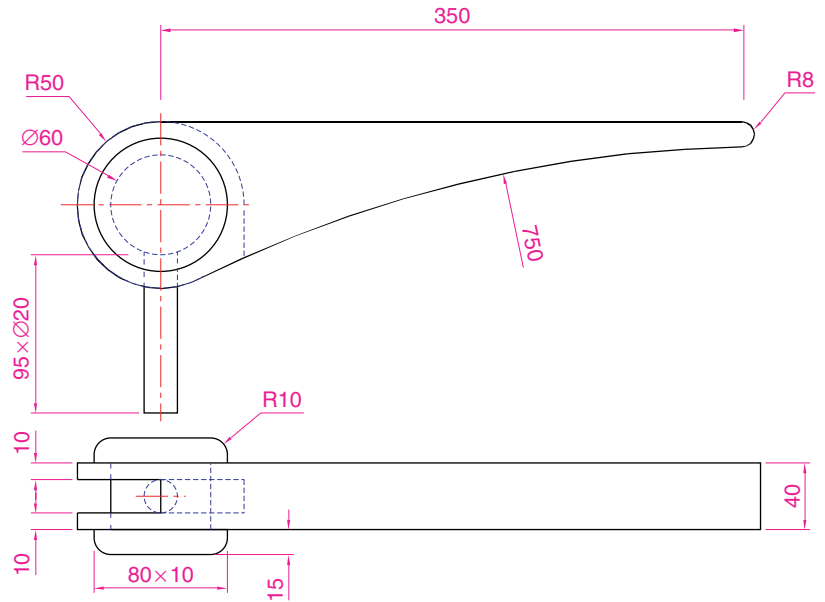

Fig. 14.16 Exercise 4 – orthographic projection
- A two-view orthographic projection of a rotatable lever from a machine is given in Fig. 14.16, together with an isometric drawing